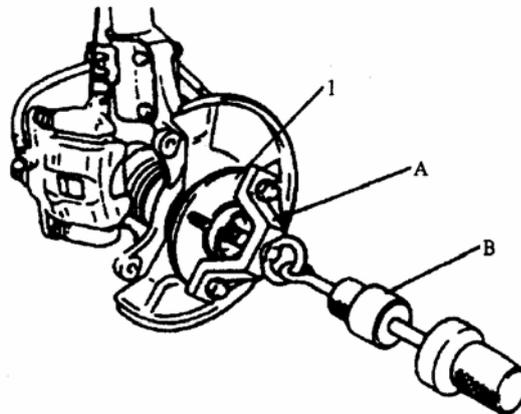

FIG.16-21 1.Hub
- (5) Remove split pin.
(6) Remove castle nut and washer.
(7) Remove hub using special tool. (FIG.16-21)